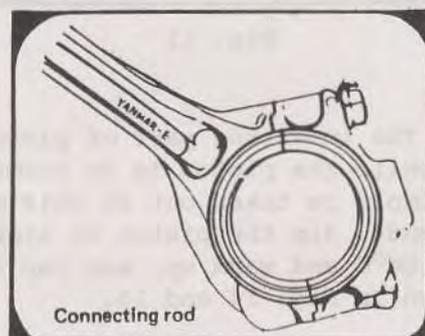

Fig. 12
(3) Take out the piston together with the connecting rod toward the cylinder head.
(4) The connecting rod and bolts should be put together in order to avoid faulty reassembling.
(5) The crank-in bearing is made of kelmet metal, the back is of forged steel and the surface is planted with lead alloy so as to improve the initial fitting. During engine operation, the plated lead alloy may become worn, and yellow kelmet steel shows out. At this stage the engine should not be stopped but should be operated continuously. It is also advisable not to apply any liner to this bearing for adjustment, nor carry out lapping of this bearing.
(6) When re-assembling the piston connecting rod you should be careful about the following points:
- (a) The big end of connecting rod has a cut on a position inclined toward the center of connecting rod as shown in Fig. 12, and it must be mounted to the crankshaft in the primary direction. (Be careful not to mount the connecting rod in the wrong direction.)